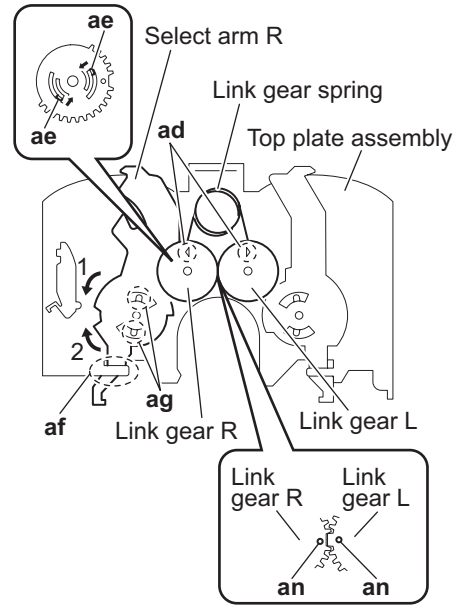

Fig.17
**(See Figs.17 and 18)**
- (1) From the top side of the top plate assembly, remove the link gear spring from the sections **ad** of the link gear L and link gear R. (See Fig.17.)
- (2) Remove the link gear R in an upward direction while releasing the claws **ae** of the link gear R in the direction of the arrow. (See Fig.17.)
- (3) Move the select arm R in the direction of the arrow 1 to remove the sections **af** of the top plate assembly. (See Fig.17.)
- (4) Move the select arm R in the direction of the arrow 2 and remove the select arm R from the sections **ag**. (See Fig.17.)
- When reattaching the link gear R, attach it after aligning the hole **an** of the link gear R to the hole **an** of the link gear L. (See Fig.17.)